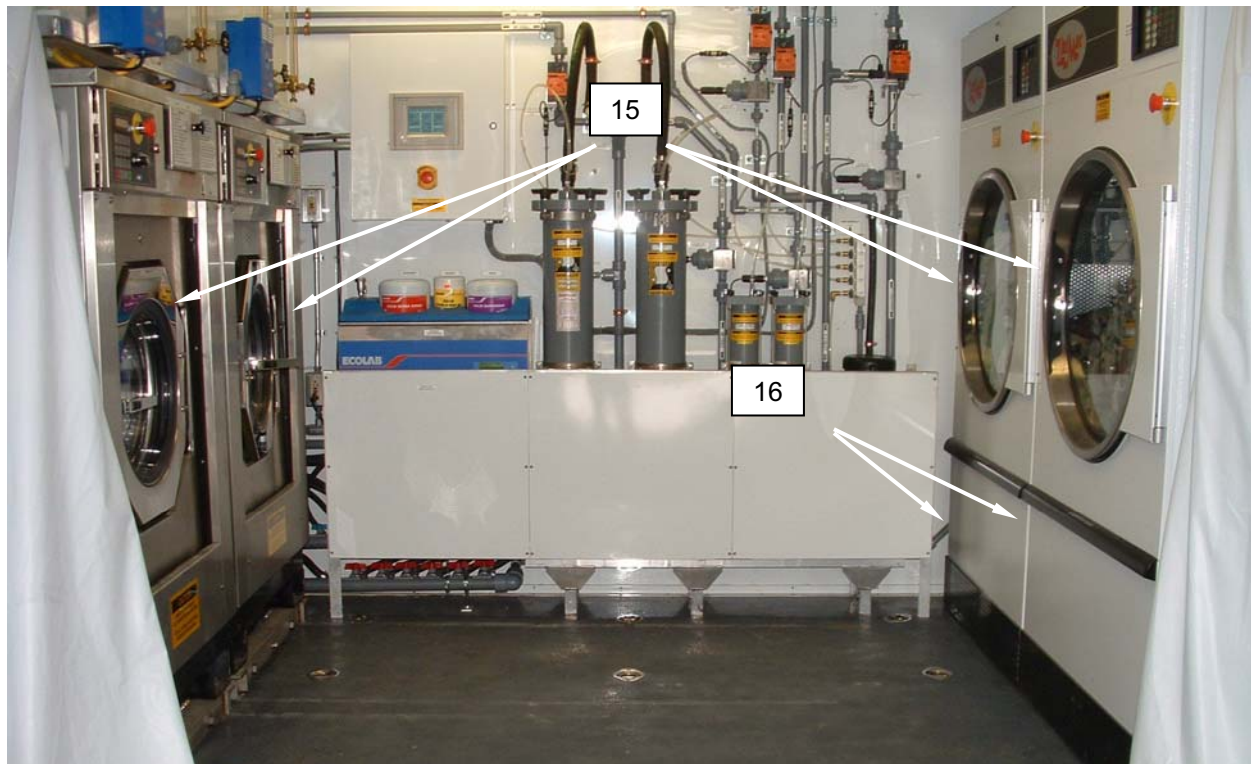

Figure 8. Operation in Severe Cold Conditions.
16. Open doors (**Figure 8, Item 15**) on both washers and both dryers.
17. Remove lint compartment panels (**Figure 8, Item 16**) from both dryers.